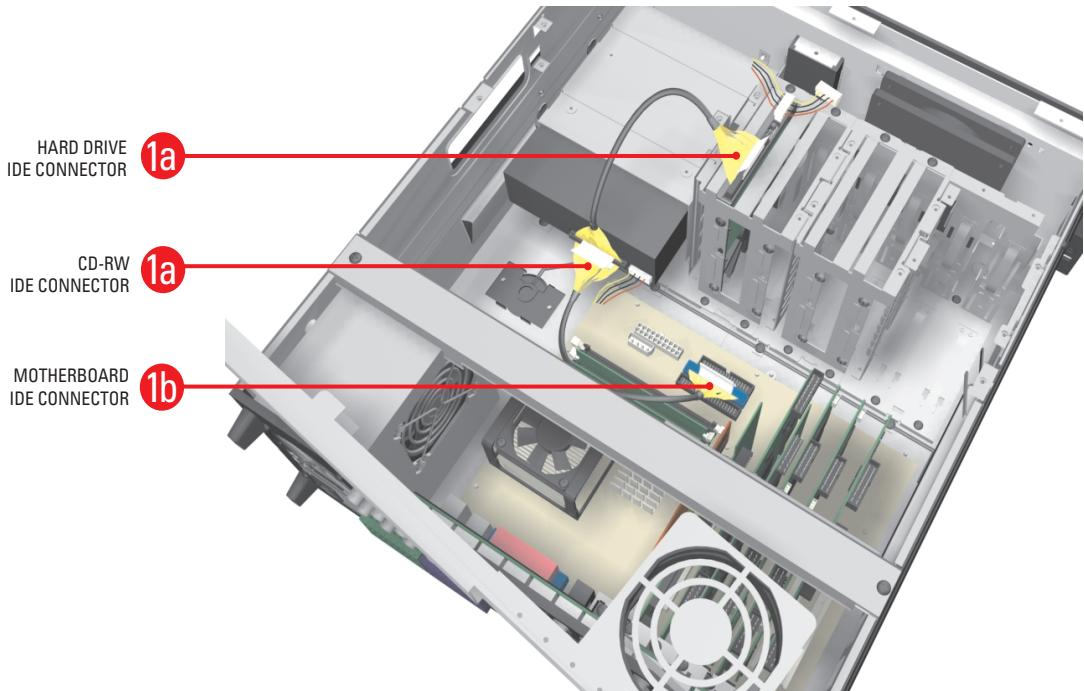

Figure 8. Removing the IDE Data Cable
- a. Carefully pull the plastic tab of each cable connector away from the hard drive and CD-RW drive. Refer to Figure 8.
- b. Following the same procedure, remove the other end of the IDE cable from the drive interface connector on the motherboard. Refer to Figure 8.